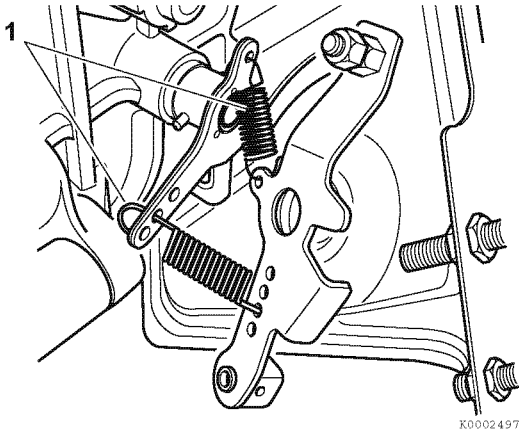

Figure 6-83
2. Pull the assembly away from the crankcase (1, **Figure 6-83**) and mark the position of each spring end for reassembly. Carefully remove each spring.